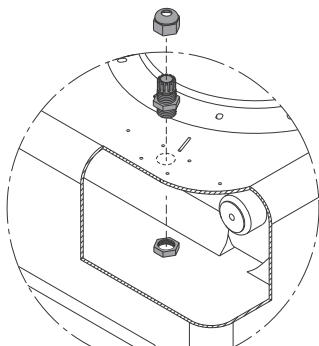

Fig. 5 Fitting the cable glands
4. Fit the cable gland. See fig. 5.